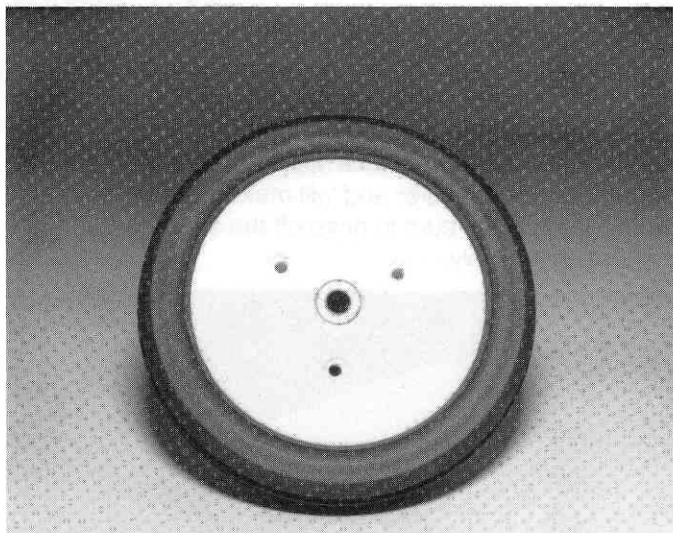

Fig. 149
□ **Fig. 149** Take the outer half of the #6854 front wheel (small center hole), as shown, and push it into the front tire making sure it is seated all the way around, and centered perfectly.